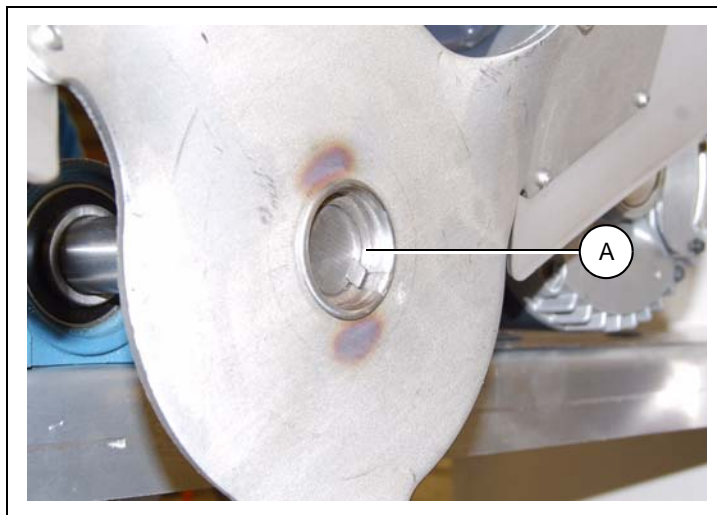

Figure 8S
NOTE: End of shaft should align flush (A) with the metal face of the propellar bore. (See Figure 8S.)